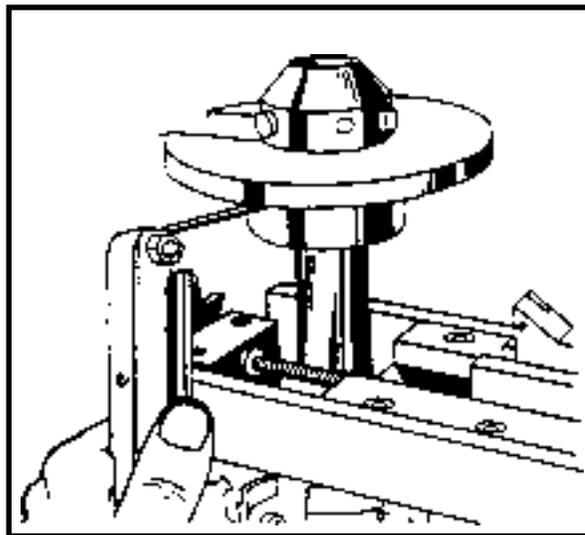

Figure 21
5. Place alignment fixture over Mandrel Shaft (Figure 21). Slide it forward to rest against the back of the Mandrel and tighten the two 1/4-20x3/4" brass tipped set screws to lock it in place.